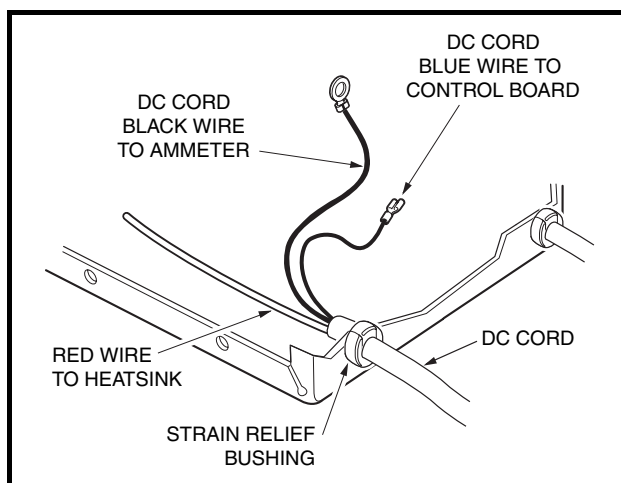
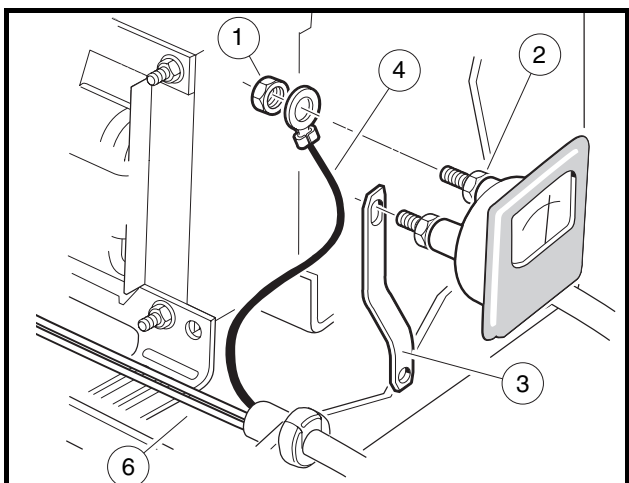

Figure 6-17 DC Cord
Figure 6-18 DC Cord Replacement
3. To check the continuity of the DC cord, disconnect the black wire of the DC cord from the ammeter (**Figure 6-17, Page 6-24**).
4. Remove the other transformer (tan) secondary coil wire from the bottom terminal of the heatsink and place the continuity test clip on the ammeter buss bar (3) (**Figure 6-18, Page 6-24**). Test for continuity between the buss bar and each of the secondary coil wires (tan). The tester should indicate continuity between the buss bar and both of the secondary coil wires. If tester does not indicate continuity on both secondary coil wires, replace transformer. Ensure that the fuse is intact and not blown.
3. Remove the DC cord black wire (4) from the ammeter by loosening the nut (1). Support the terminal as the nut is loosened to prevent rotation of the connection (**Figure 6-18, Page 6-24**).
4. Remove nut attaching the red wire (6) of the charger DC cord to the heatsink.
7. Disconnect the DC cord blue wire from the control board (**Figure 6-17, Page 6-24**).
8. Using pliers, squeeze the strain relief bushing and remove the DC cord (**Figure 6-17, Page 6-24**).
2. Attach the red wire of the new DC cord to the center terminal of the heatsink and tighten the nut to 18 in-lb (2.0 N·m) (**Figure 6-17, Page 6-24**).
3. Attach the blue wire of the new DC cord to the control board (**Figure 6-17, Page 6-24**).
4. Attach black wire of the new DC cord to ammeter. Install nut (1) onto post of ammeter slightly more than finger tight. While holding the inside nut (2), tighten the outside nut (1) 1/4 turn (**Figure 6-18, Page 6-24**). **See following CAUTION.**